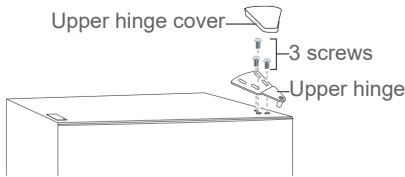

Fig. 3
1. Remove the upper hinge cover, then remove the upper hinge after removing its three screws (→ Fig. 3).